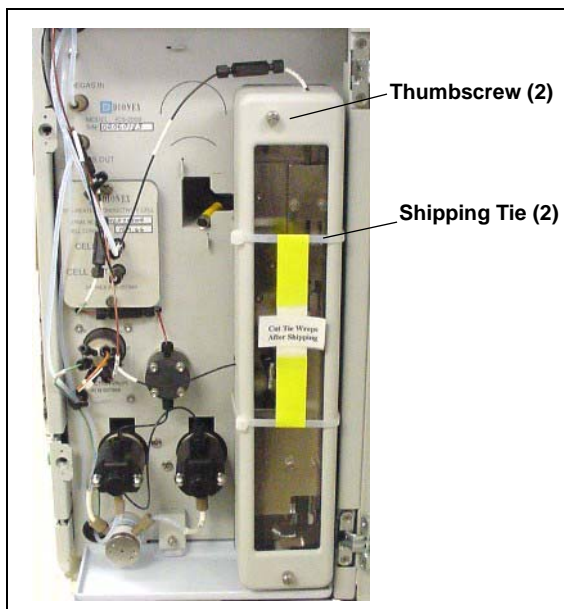

Figure B-20. ICS-2000 Column Heater Setup
1. Cut off the two shipping ties from the column heater and remove them (see Figure B-20).